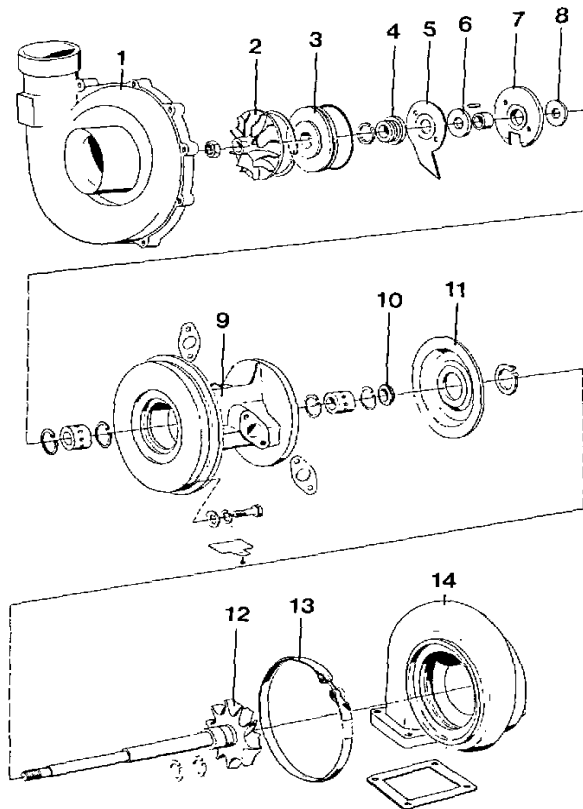

Fig. 199. Holset 4L
2. Make line-up marks between the turbo housing (14, fig. 199), the bearing housing (9) and the compressor housing (1).